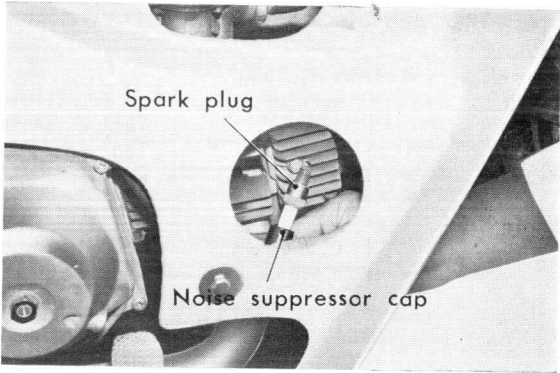

Figure 5-10. Testing spark plug firing
- (1) The most simple method is to remove the spark plug and perform the starting procedure with the spark plug grounded to the engine. When a strong spark of bluish white color is produced, it is an indication of satisfactory ignition coil and flywheel A.C generator. (Fig. 5-10)